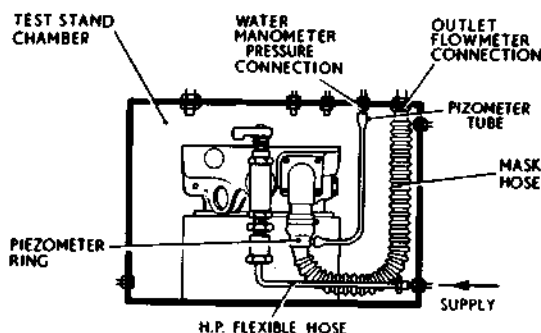

Fig.1. Connections for exercising the regulator
- (1) Connect the inlet adapter to the regulator shut-off valve.
- (2) Mount the regulator in the test stand and connect the high-pressure flexible hose to the inlet adapter on the regulator. Connect the mask hose of the piezometer ring to the outlet adapter in the chamber and the piezometer tube to the connection labelled PRESSURE. Connect the piezometer ring to the regulator outlet (fig.1).
- (3) Set the regulator shut-off valve to ON, the air inlet control to NORMAL and the emergency button central.
- (4) Close and clamp the chamber door, then open the high-pressure ON/OFF valve. Using the reducing valve, apply the appropriate inlet pressure (Table 1) to the regulator.
9. With the regulator connected to the test chamber as for exercising (fig.1) the procedure is as follows:-